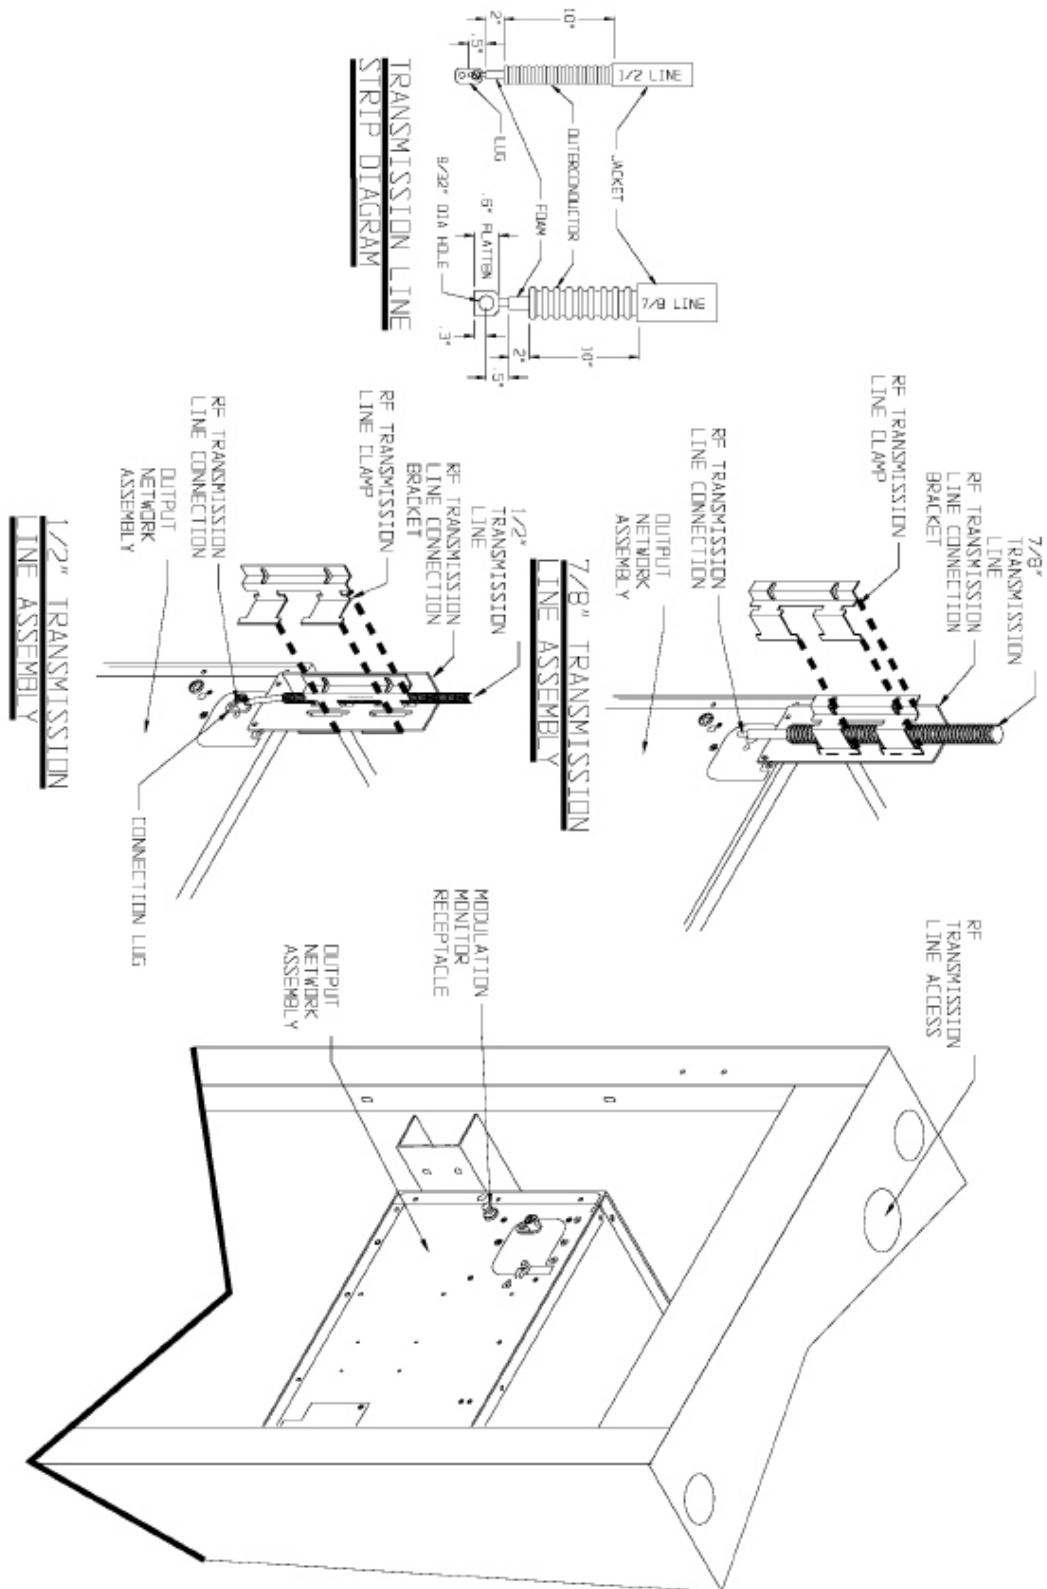

FIGURE 2-11 AM-6 RF Output Connectors
The AM-6A transmitter RF output connection is located on the output network assembly rear-panel (refer to Figure 2-11). The connection is designed for 7/8 inch transmission line. To connect the RF transmission line to the transmitter, refer to Figure 2-11 and proceed as follows:
- a. Refer to Figure 2-11 and strip the transmission line as shown.